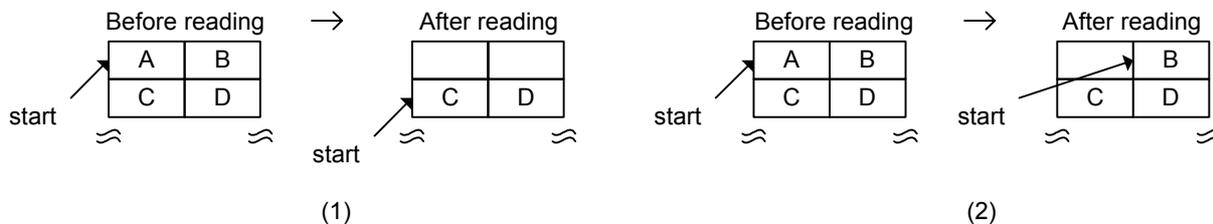

Fig.1.85 FIFO reading processing (normal operation)
Fig.1.85 (1) illustrates a case of word reading from a state without byte boundaries. Data A and B followed by data C and D are read out for each access. Fig.1.85 (2) illustrates a case of byte reading. Data is read out in the sequence A, B, C, and D for each access. These are the normal reading operations.